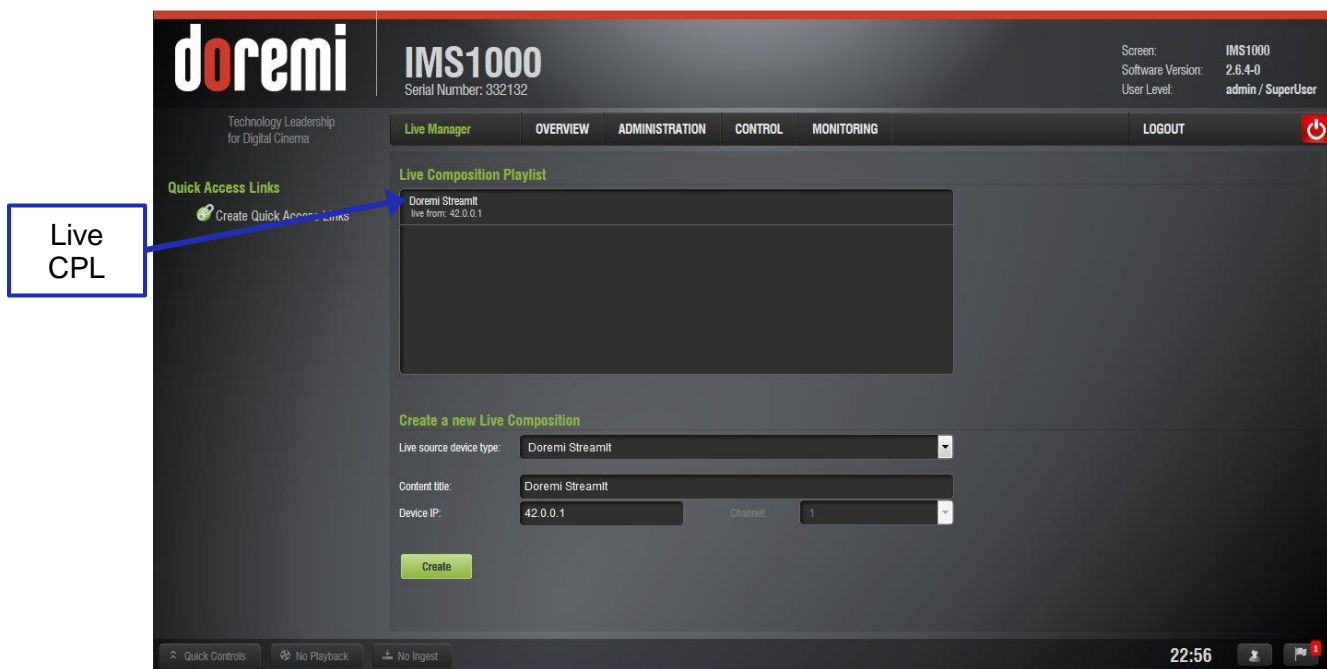

Figure 189: CPL Created
- Click the Create button to complete the live CPL creation (Figure 189).
- The Live CPL is now visible in the Live Manager main window (Figure 189).
To view the properties of the CPL, highlight the CPL and click on the Properties button on the right-hand side (Figure 189).